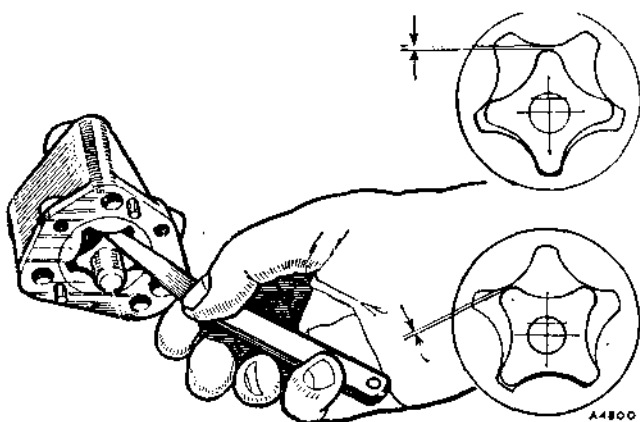

Fig. A.17
3. With the rotors installed in the pump body measure the clearance between the rotor lobes when they are in the positions shown in Fig. A.17. If the clearance is in excess of .006 in. (.152 mm.) the rotors must be renewed.